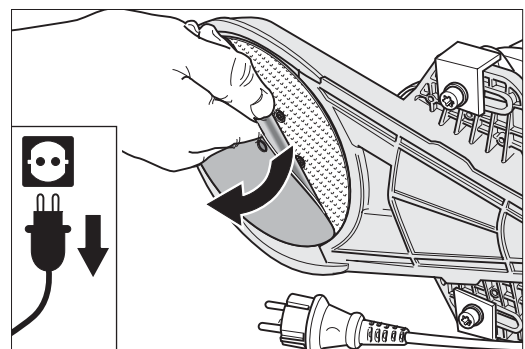

Fig. 8 Simply pull off the Velcro sanding disc ...
- 4 Pull off the worn-out Velcro sanding disc from the sanding plate (Fig. 8).